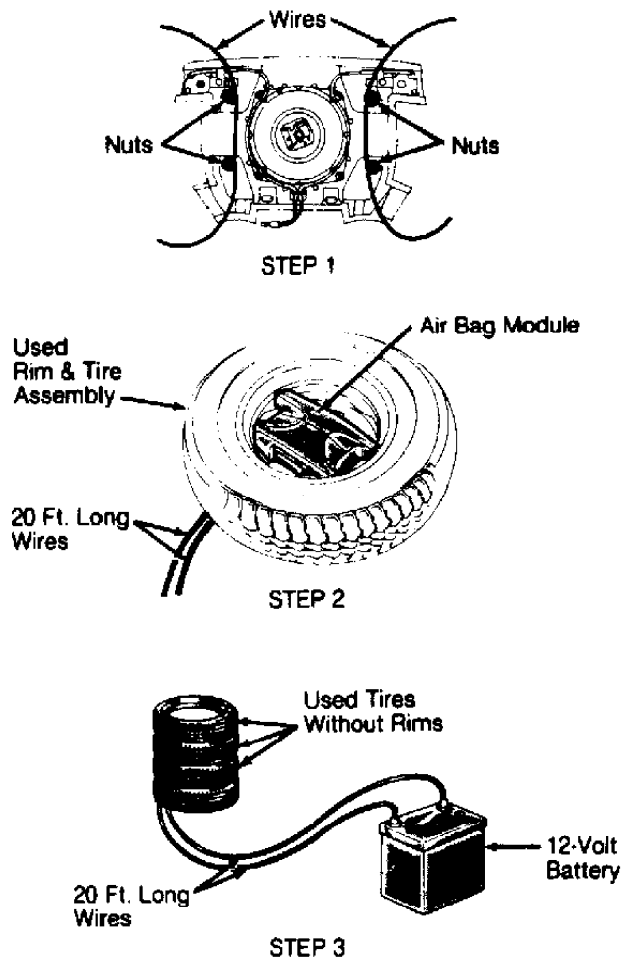

Fig. 3: Securing Driver-Side Air Bag Module For Deployment
4) Run connector-end of harness wires under tire and out through hole in rim. See Fig. 3. Connect SRS air bag adapter harness to air bag module connector. On driver-side air bag module, wrap heavy wire around air bag module mounting studs, then install mounting nuts. In any case, place air bag module inside of used tire and rim assembly (secure it to rim with heavy wire).